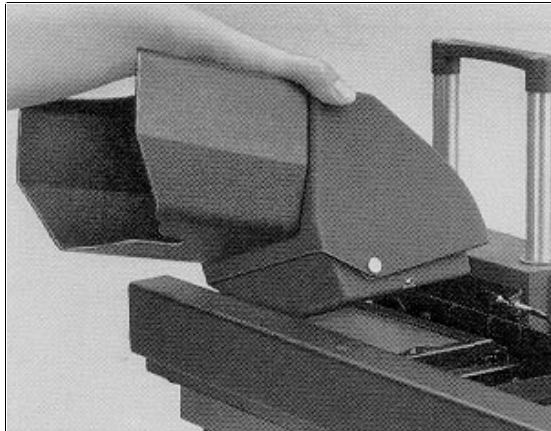

Figure 2-31. Attaching Reflex Viewer
- a. The pins on the sides of the viewer fit into the slots on the ground glass frame (figure 2-31).